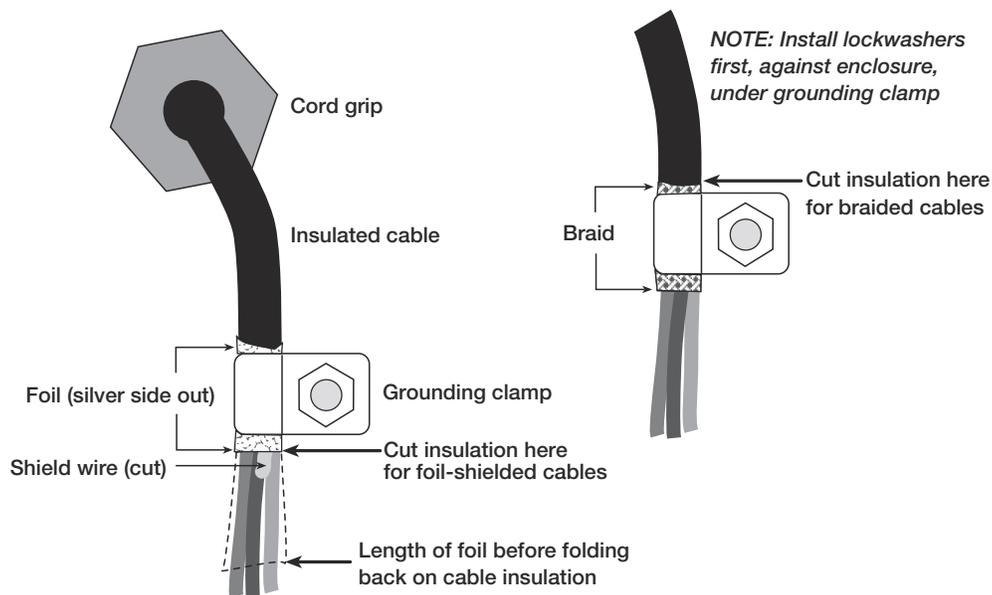

Figure 5-4. Grounding Clamp Attachment for Foil-Shielded and Braided Cabling
- For cables with foil shielding, strip insulation and foil from the cable half an inch (15 mm) past the grounding clamp (see Figure 5-4). Fold the foil shield back on the cable where the cable passes through the clamp. Ensure silver (conductive) side of foil is turned outward for contact with the grounding clamp.
- For cables with braided shielding, strip cable insulation and braided shield from a point just past the grounding clamp. Strip another half inch (15 mm) of insulation *only* to expose the braid where the cable passes through the clamp (see Figure 5-4).
- Route stripped cables through cord grips and clamps. Ensure shields contact grounding clamps as shown in Figure 5-4. Tighten grounding clamp nuts.